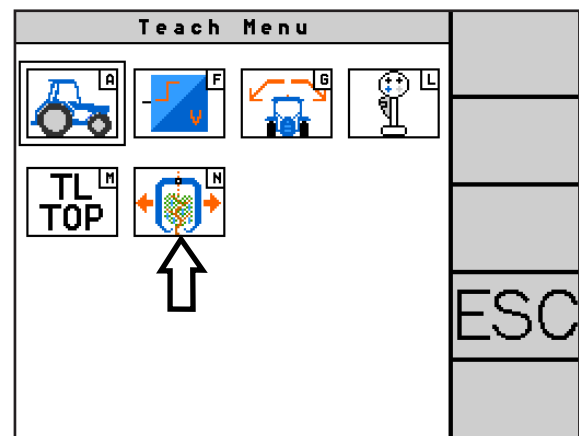

Fig. 80: Accessing harvest basket teaching
Select the harvest basket symbol (N) in the teach menu (see Fig. 80) to call up the “Teach harvest basket” menu.